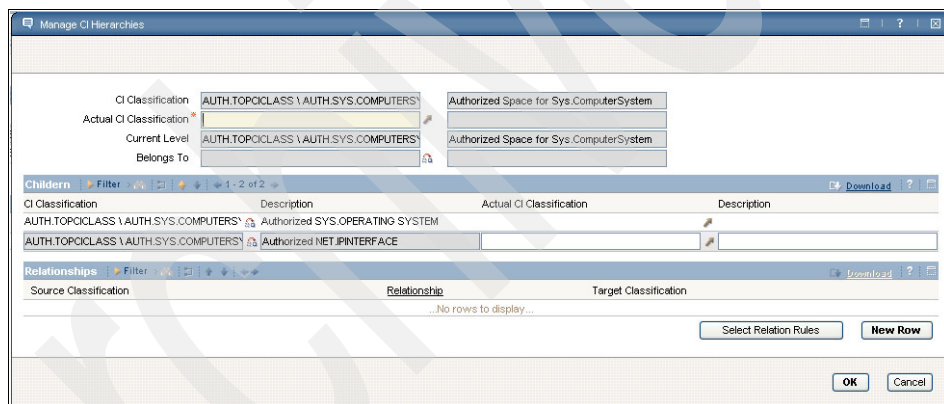

Figure 5-9 Manage classifications
- After selecting **Manage CI Hierarchies**, you will get the window shown in Figure 5-9.